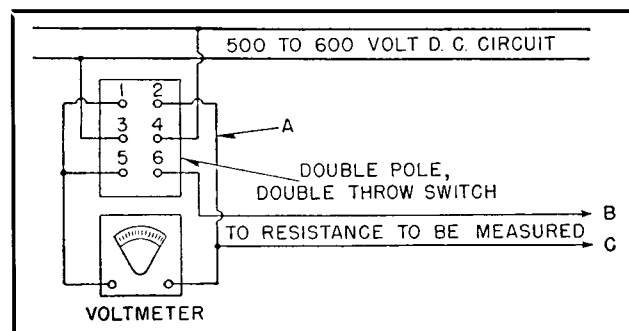

FIG. 1. Connections for Measuring Insulation Resistance.
The method of connection for the measurement is given in Fig. 1. With a voltmeter having a resistance of one megohm, the calculation is somewhat simplified, since  $r = 1$  and the formula becomes:
**Check Readings.** Check readings should be taken after the connections have been made to insure that there is no appreciable leakage of current between the switch jaws. To do this, close switch on 5 and 6 (Fig. 1) and note very accurately the voltmeter reading. Then disconnect wire "A" from 2 and leave the end hanging loose in the air so that